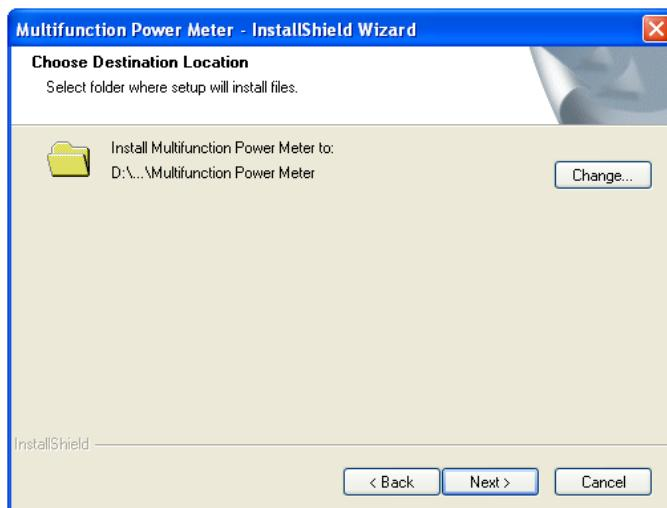

Fig. 129
- (4) When the page in Fig. 128 is shown, click "next", the Fig. 129 is shown.